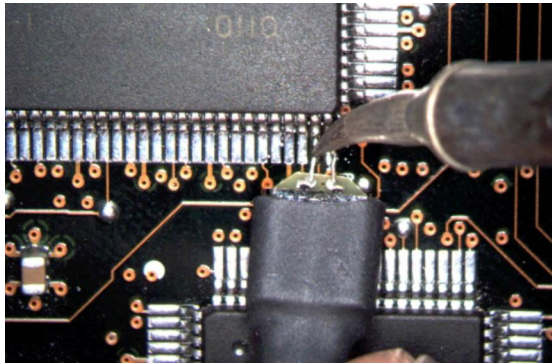

Figure 41 Positioning Wires
- 7 Position the probe head wires on the DUT leads and quickly re-flow the solder as shown in Figure 41.